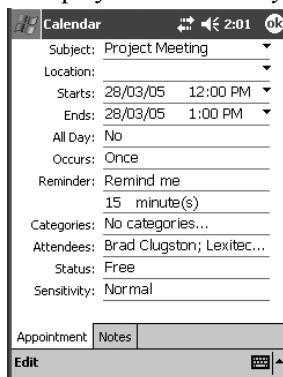

Figure 4.13 Appointment Details Screen
- Tap on an **appointment** to display it in its *Summary* screen, and tap on the **Edit** menu. The *Appointment Details* screen is displayed. (Refer to Figure 4.13 on page 53 to view a sample screen.)